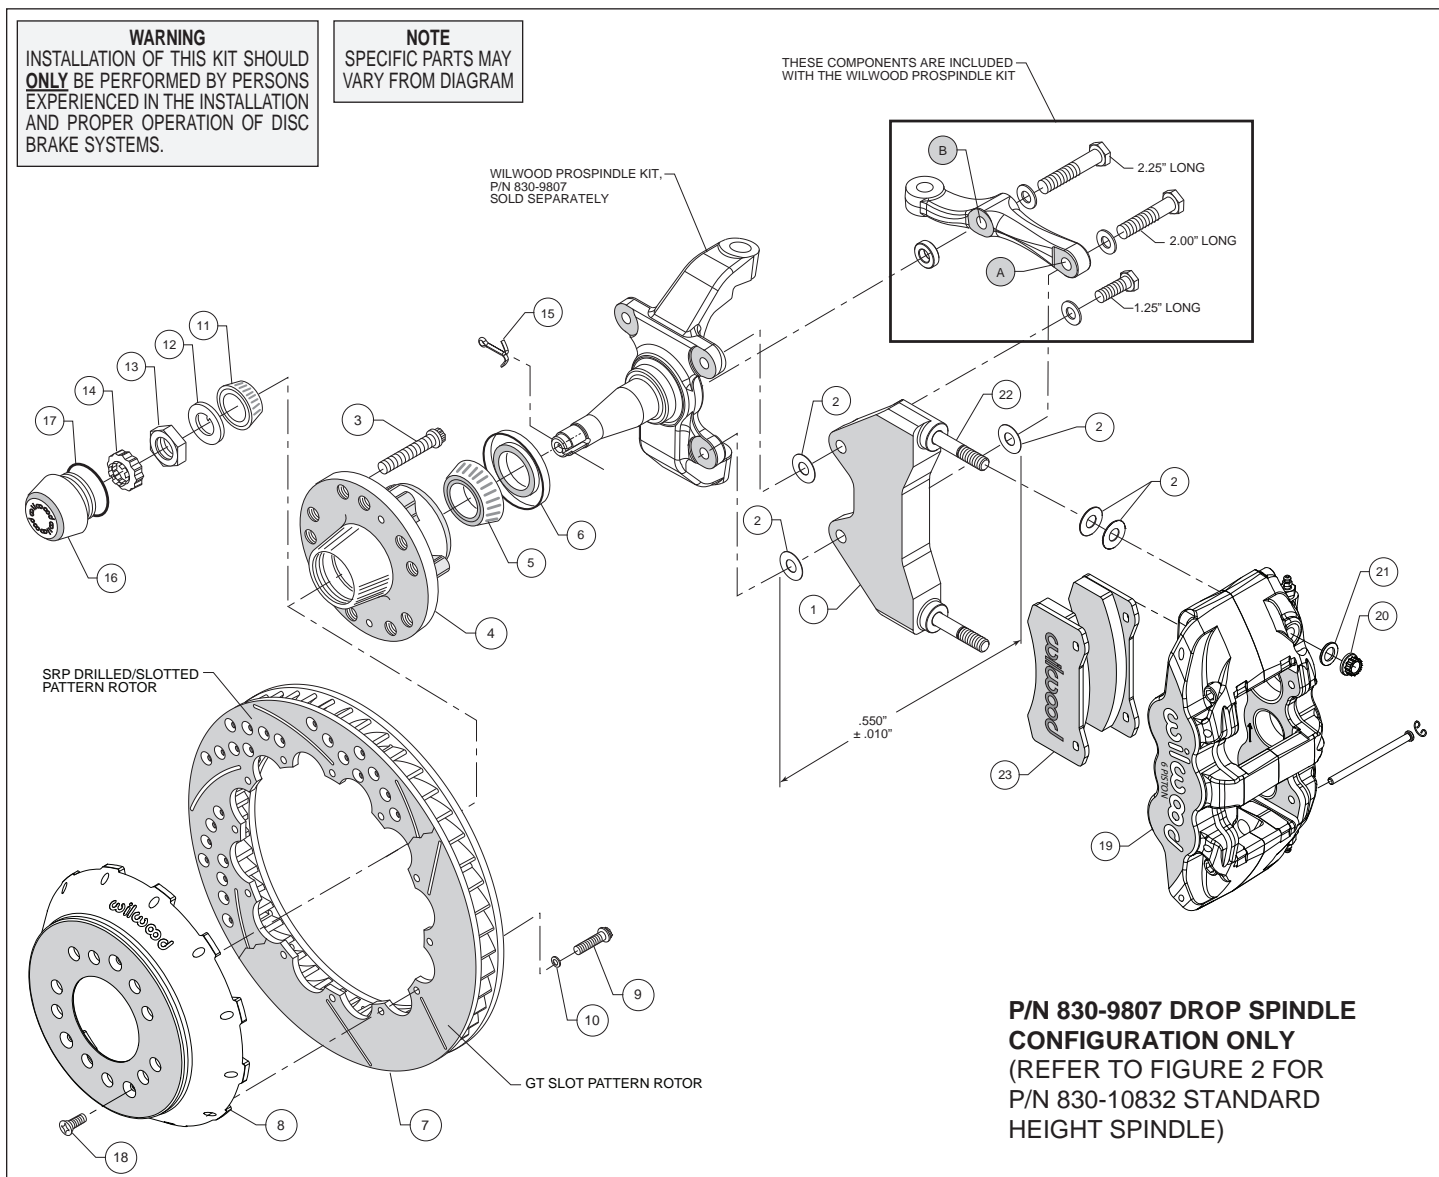
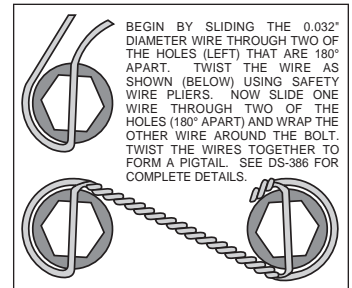

Figure 1. Installation Configuration For Drop Spindle, P/N 830-9807
Figure 4. Safety Wire Diagram
Assembly Instructions (numbers in parenthesis refer to the parts list and Figures 1 and 2 on the preceding pages):
- NOTE:** Each Wilwood ProSpindle kit includes bolts, washers, and a spacer to mount the steering arm and caliper bracket. The various bolts are identified by length in the following instructions and in Figures 1 and 2.
- Orient the bracket as shown in Figure 1 and Photo 1. Install at top spindle hole using 1.25" long bolt and .06" thick washer (from ProSpindle kit), and one .030" thick shim (2) between the bracket and spindle, Figure 1.
- Orient the steering arm, and identify the hole marked 'A', as shown in Figure 1. Install at bottom spindle hole using 2.00" long bolt, .06" thick washer (from ProSpindle kit), one .030" thick shim (2) between the steering arm and the bracket, and another .030" thick shim (2) between the bracket and spindle, Figure 1. The bracket is located between the steering arm and spindle. **NOTE:** The bracket and shim washers must add up to a total thickness of $.550" \pm .010"$, Figure 1.
- Finish attaching the steering arm through the hole marked 'B', as shown in Figure 1. Install using 2.25" long bolt, .06" thick washer, and .25" thick spacer (all from ProSpindle kit), Figure 1.
- Install the grease seal (6) by pressing into the backside of the hub (4), flush with the end of the hub, Photo 4.
- Orient the rotor (7) and the hat (8) as shown in Figures 1 or 2, and Photo 5. Attach rotor to hat using bolts (9) and washers (10). Using an alternating sequence, apply red *Loctite*[®] 271 to the threads, and torque to 155 **in-lbs**. For an added measure of security, the bolts may be safety wired using standard 0.032 inch diameter stainless steel safety wire as shown in Figure 4. Refer to Wilwood's data sheet DS-386 (available at www.wilwood.com/Pdf/DataSheets/ds386.pdf) for complete safety wire installation instructions.
- Screw dust cap (16) into hub (4), Photo 7. Friction created by the o-ring (17) on the dust cap keeps it from unscrewing.
- Slide the hat/rotor assembly (7/8) onto the hub (4) taking care to align the small countersunk holes in the hat with the small threaded holes in the hub. **NOTE:** The hat must fit flush against the hub face or excessive rotor run out may result. Install three flat head screws (18) through the small holes in the hat (8), Photo 7, and torque to 85 **in-lb**.
- NOTE:** This kit contains distinct right and left hand calipers that must be mounted in a specific direction, as described below. Lubricate the caliper mounting studs (22) with lightweight oil. Initially place two .030" thick shims (2) on each stud as shown in Figure 1 or 2, and Photo 8. Mount the caliper (19) onto the bracket (1) using lock nuts (20) and washers (21), Figure 1 or 2. Ensure that the caliper is mounted so the largest pistons are at the rotor exit end of the caliper, in relation to the direction of rotor rotation. Temporarily tighten the lock nuts. View the rotor through the top opening of the caliper. The rotor should be centered in the caliper, Photo 9. If not, proceed as follows:
- Adjust by adding or subtracting shims (2) between the bracket and the spindle. Always use the same amount of shims on each of the two bolts between bracket and spindle.
- For the lower bracket mount bolt, if a shim was added between the bracket and spindle, then a shim must be removed between the steering arm and bracket, such that the total thickness of bracket and shims remain equal to .550 ± .010", Figure 1.
- Adjust by adding or subtracting shims (2) between the bracket and the spindle. Always use the same amount of shims on each of the two mounting bolts.
- Remove the two pad retaining pins from the caliper (19) by carefully popping out the pin retaining clips and sliding out the pins. Insert the brake pads (23) into the caliper from the bottom, Figure 1 or 2, and Photo 10. With the friction material facing the rotor, secure the brake pads in place with the pad retaining pins and clips, Photo 11. Reinstall the caliper onto the caliper mounting bracket and temporarily tighten the lock nuts. Check that the top of the brake pad is flush with the outside diameter of the rotor, Photo 12. If not, adjust by adding or subtracting shims (2) between the caliper and the bracket. After the caliper pad height is set, torque the caliper lock nuts (20) to 47 ft-lb.